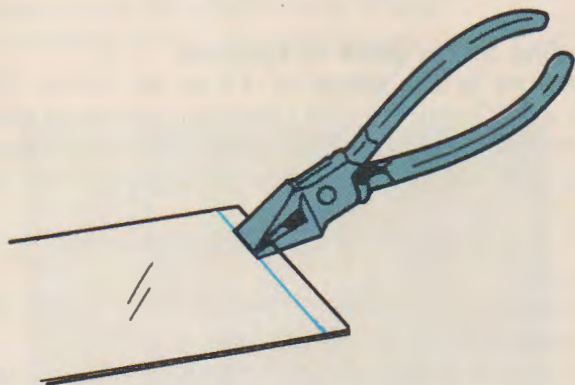

Fig. 15-10. Pliers are used to remove small chips which cannot be fractured by hand.
2. Place the pliers perpendicular to the score mark and squeeze with firm pressure, Fig. 15-10.